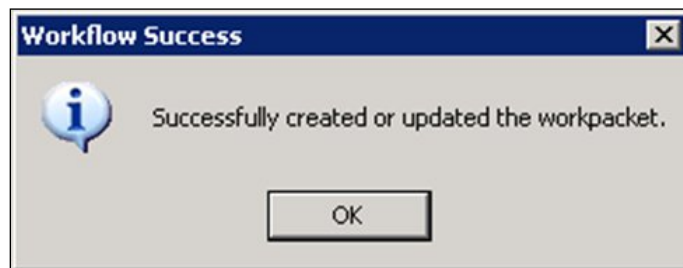

Figure 7-21: Workflow Success Message
14. Click the OK button in the Forward Work Packet dialog box. The Workflow Success system message is displayed (Figure 7-21).